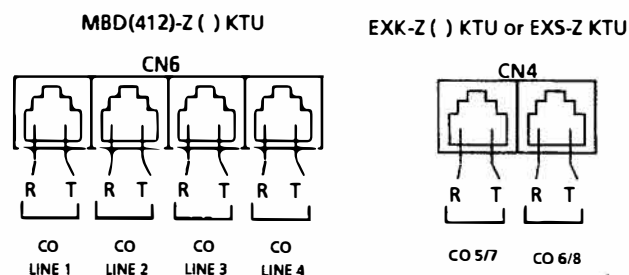

Figure 200-5 CO/PBX Line Connection
1. The FCC authorized connector for the connection of CO lines is an RJ11C. The lines must be connected in the appearance order best suited to the customer's usage. Refer to Figure 200-5 CO/PBX Line Connection.